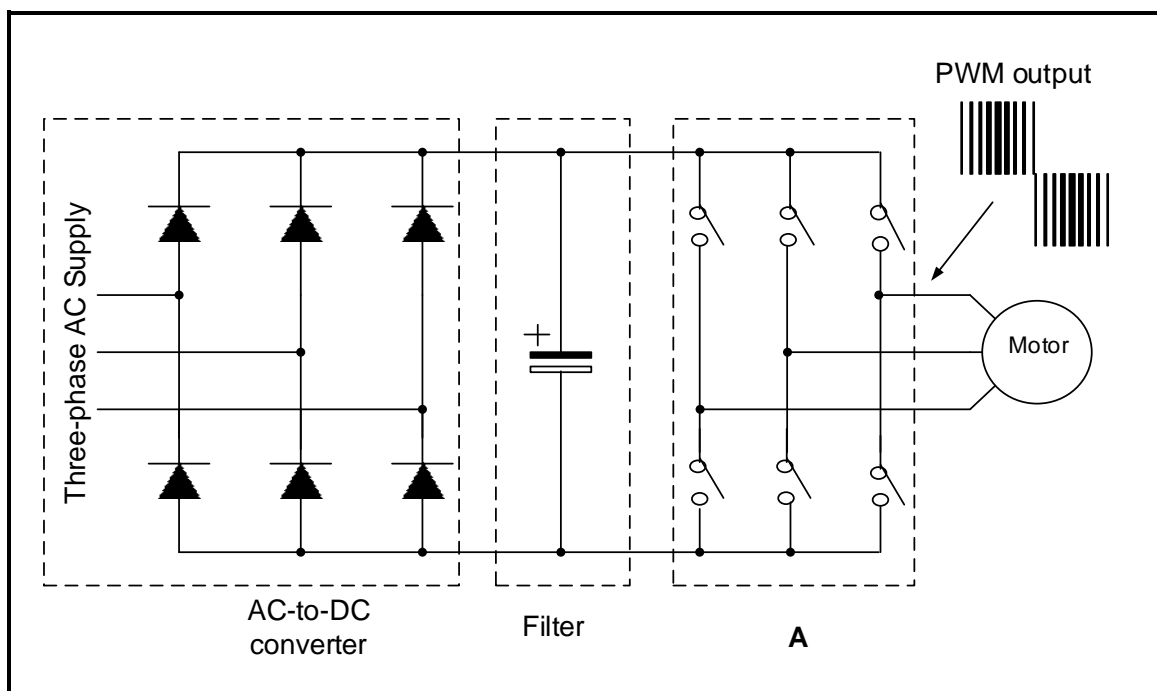

FIGURE 7.6 VARIABLE SPEED DRIVE STAGES
7.6 FIGURE 7.6 below shows the different stages in a variable speed drive. Answer the questions that follow.